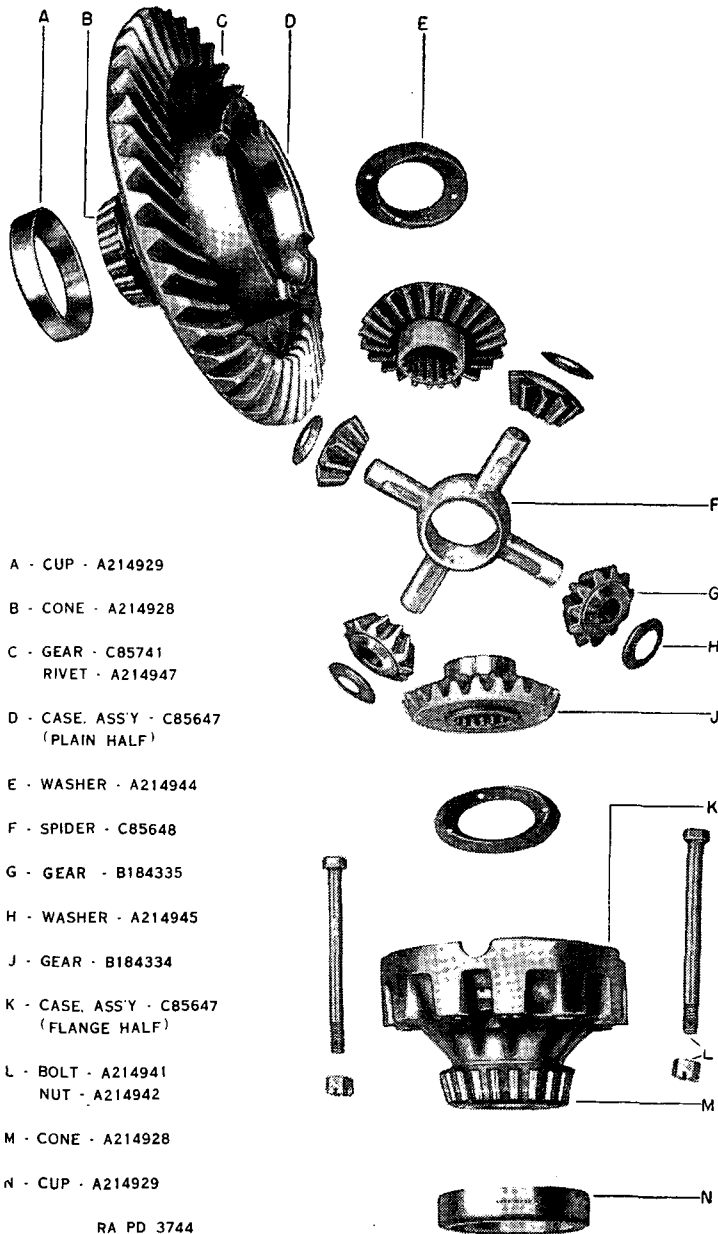

FIGURE 58.—Rear axle differential case assembly, partially exploded.
(6) Split differential case—cutting pliers, $\frac{3}{4}$ -inch socket wrench, hammer. Cut the locking wire (A214943) threaded through case bolts and remove twelve $\frac{1}{2}$ -inch bolts (A214941) and nuts (A214942). Tap the side of case to loosen and pull away one half (fig. 58).